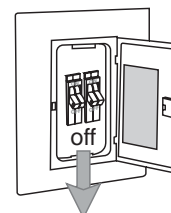

figure 1
1. Turn off circuit breakers and wall switch to the fan supply line leads. (figure 1)